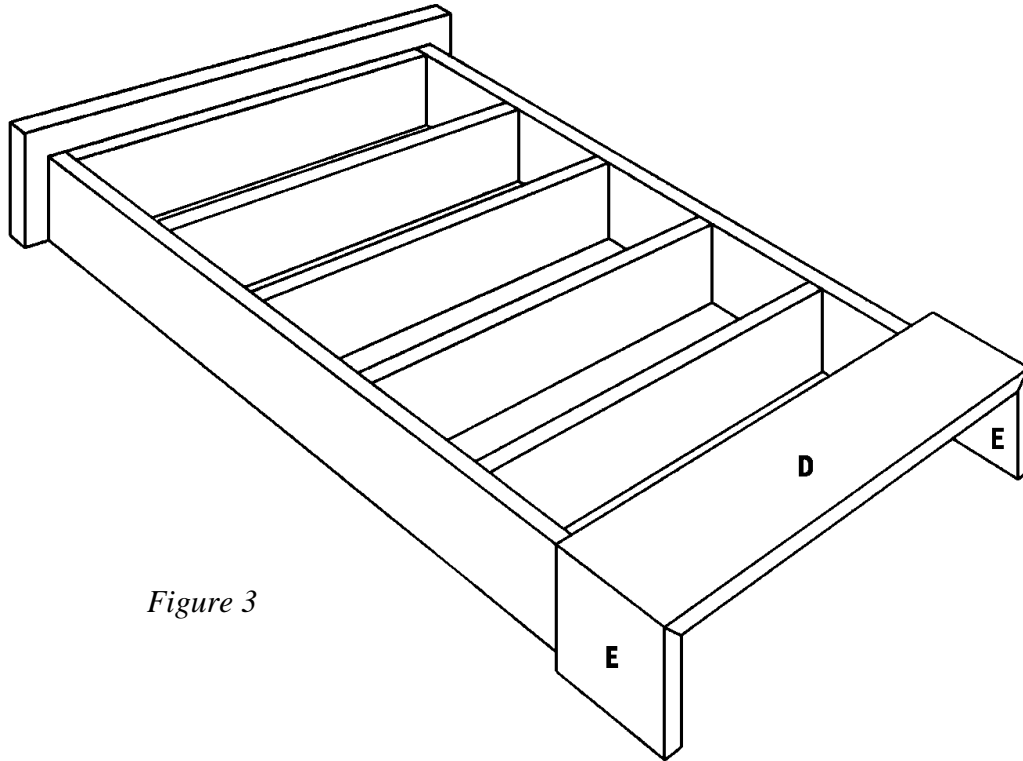

Figure 3
3. Attach the Base Front (D) to the edge of the Bottom Shelf (B) as shown in *Figure 3*. Apply glue to the meeting surfaces, and nail through the Base Front (D) into the edge of the Bottom Shelf (B), using 1-1/4" nails spaced about 4 inches apart.
4. Place one Base Side (E) on both Shelf Sides (A) as shown in *Figure 3*. Apply glue to the meeting surfaces, and nail through the Base Sides (E) into the Shelf Sides (A), using three 1-1/4" nails on each joint.